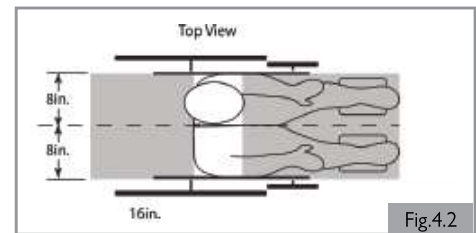

Fig 4.2
3. The recommended clear zones for wheelchair seated occupants restrained by both pelvic and upper-torso belt(s) and only by a pelvic belt are shown in the diagrams (Fig 4.2 and 4.3) and described below. Frontal Clear Zones (FCZ) need to be larger when upper torso belt(s) are not used. The Rear Clear Zone of 16-in (40.5 cm) is measured from the rearmost point on an occupant's head. The Front Clear Zone is measured from the front most point of an occupant's head and is 26-in (66 cm) with pelvic and upper-torso belt(s) and 37-in (94 cm) with only a pelvic belt. The frontal clear zone may not be achievable for wheelchair-seated drivers.